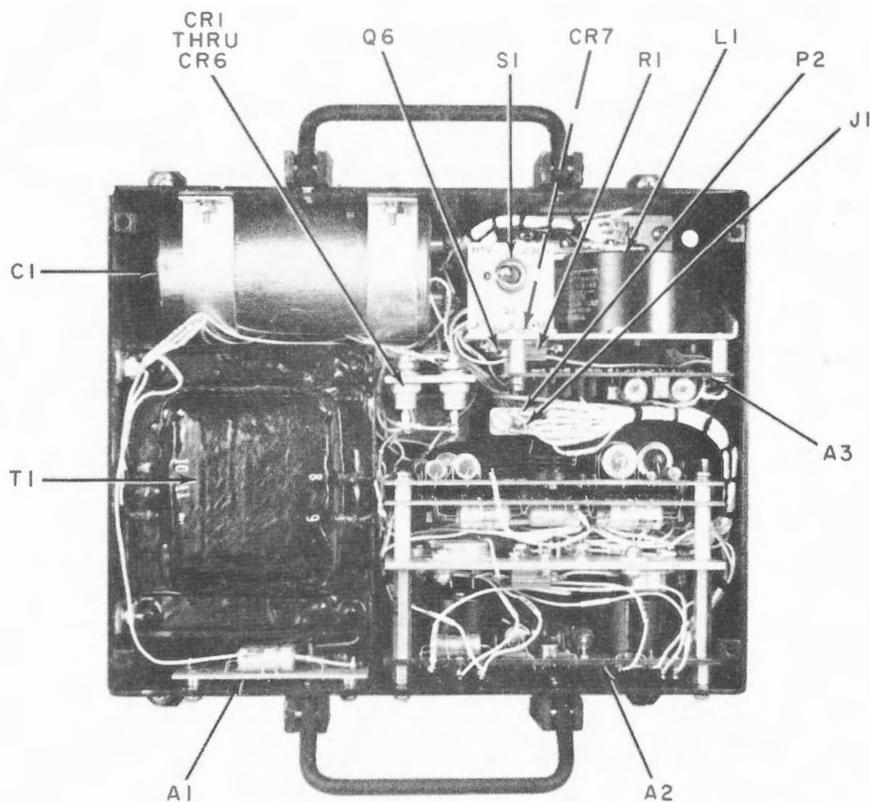

Figure 5-49. Power Supply Module PS1
- a. POWER SUPPLY PS1. (See figures 5-49 through 5-54.)
- (1) TEST EQUIPMENT AND SPECIAL TOOLS.